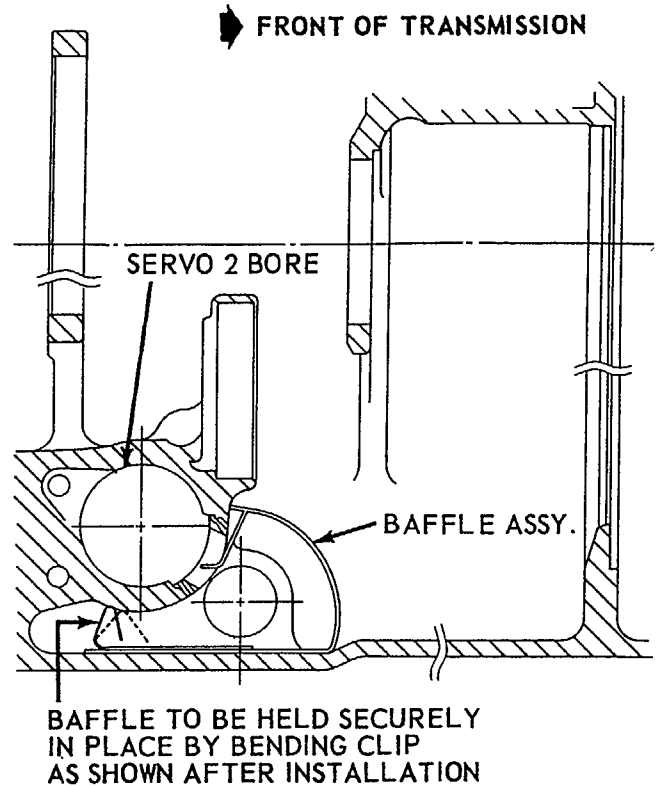

Figure 7
2. Working through the front of the transmission, position the baffle with the flat portion down and the clips toward the Servo 2 boss in the transmission case, as shown in Figure 7.